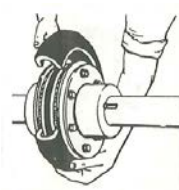

Figure 5
- Wrap flexible element around flanges as shown in Figure 5. Make sure beads of element are fully worked down upon the seats. To ensure proper seating, tap around the tire's outside diameter with a small mallet until split is closed. Make sure element is evenly centered on the flanges.